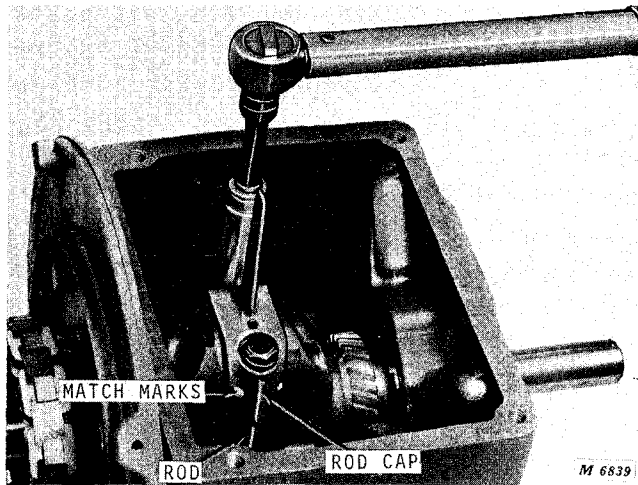

Fig. 48-Rod and Crankshaft Assembly
**NOTE:** Be sure match marks on connecting rod and rod cap are aligned and face flywheel side of engine, Figure 48.
After piston assembly is installed, place block on end and oil connecting rod and crankshaft journal. Be sure that match marks on connecting rod and cap, Figure 48, are aligned and face flywheel side of engine.